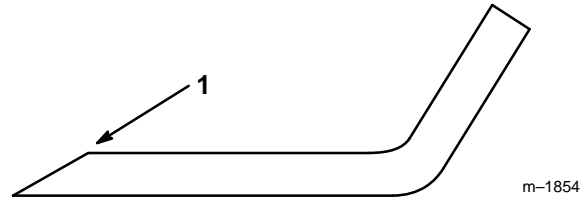

Figure 12
1. Use a file to sharpen the cutting edge at both ends of the blade (Fig. 12). Maintain the original angle. The blade retains its balance if the same amount of material is removed from both cutting edges.